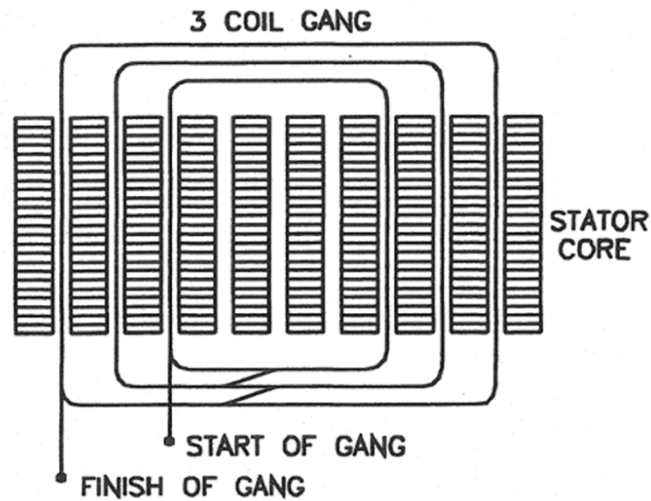

Figure 2 - Concentric coils wound in a gang
5. The stator core of a typical split-phase type motor is made up of a stack of laminations with semi-enclosed slots. The wound poles are made up of three or four series-connected coils wound in concentric gangs as shown in Figure 2 - one gang for each magnetic pole.